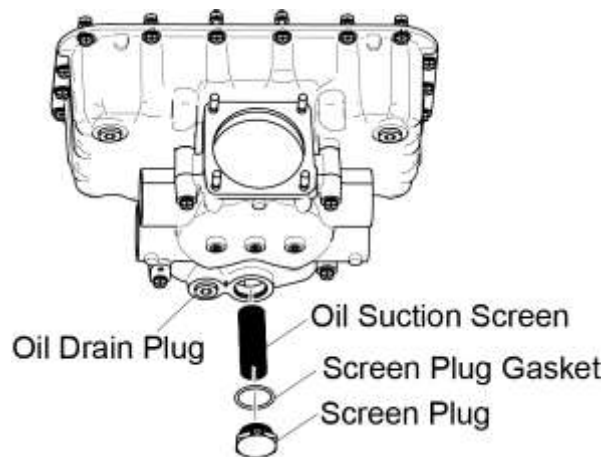

Figure 2
- (1) Put a suitable collection container with a minimum 15-quart (14-liter) capacity under the drain plug of the oil sump (Figure 2).
- (2) Remove and discard the safety wire/cable from the oil drain plug.
- (3) Remove the oil drain plug from the oil sump.
- (4) Connect an oil drain hose if available.
- (5) For routine oil changes, collect an oil sample per the laboratory vendor’s sample oil collection procedure.
- (6) Let the remainder of the oil drain from the engine into the collection container.
NOTICE: On the IO-390-D (Figure 2) engines there is an oil suction screen in the oil sump.
- A. Remove and discard the safety wire/cable from the oil drain plug and the screen plug on the oil sump (Figure 2).
- (1) Examine the oil suction screen for distortion, deformation or openings in the mesh and/or metallic particles, shavings, or flakes (which can be an indication of possible excessive internal wear on the engine).
- (2) Examine any material trapped in the oil suction screen. Examine the condition of the oil and particles on the oil suction screen. Look for shining, metallic residue which is an indication of a high concentration of metal.